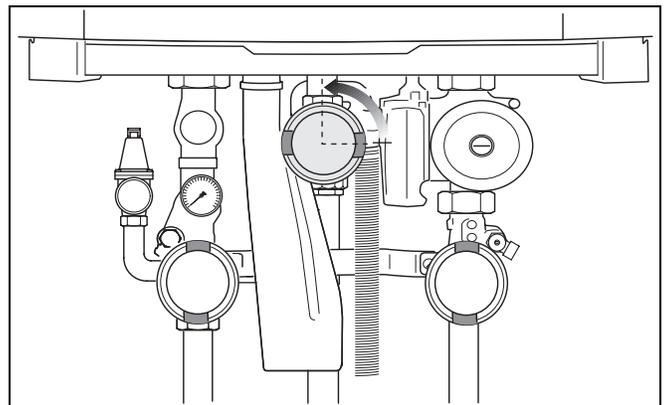

Fig. 54 Opening the gas valve
- Slowly open the gas valve by pushing on the gas valve and turning it counterclockwise through  $\frac{1}{4}$  rotation (fig. 54). The gas valve is open when it is in the vertical position.
- Slowly open the gas valve by pushing on the gas valve and turning it ¼ rotation in an counterclockwise direction (fig. 54, page 49). The gas valve is open when it is in the vertical position.
- Slowly open the gas valve by pushing on the gas valve and turning it  $\frac{1}{4}$  rotation in an counterclockwise direction (fig. 54).